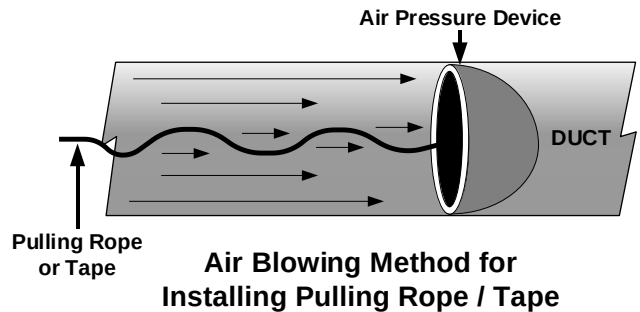

Figure 16
15.1.3 If air-blowing method is used, pulling rope is attached to an air pressure device and blown through the duct until it reaches the adjacent maintenance hole. **See Fig. 16.**